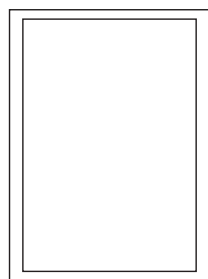

FIGURE F2 - OUTDOOR AREA - EXAMPLE 2
- Within a partial enclosure that includes an overhead cover and no more than two walls (Figures F2 and F3);